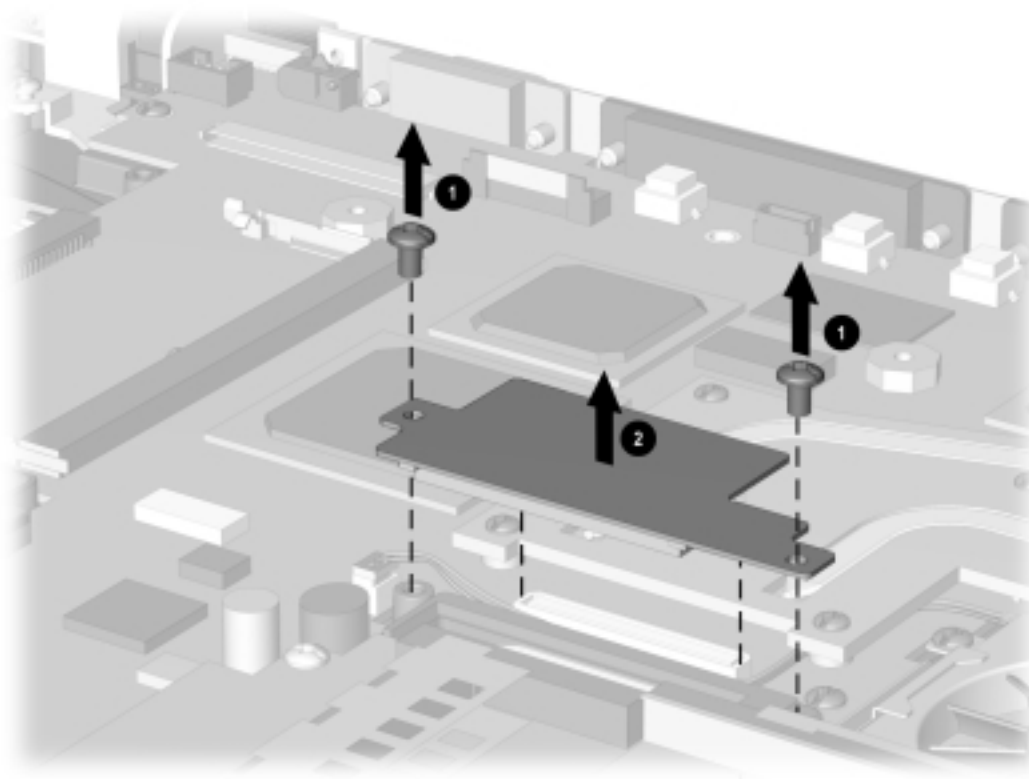

Figure 5-24. Removing the Modem Connector Board
7. Remove the two screws that secure the modem connector board ❶ to the system board (Figure 5-24).
8. Lift up on the modem connector board ❷ to disconnect it from the system board.